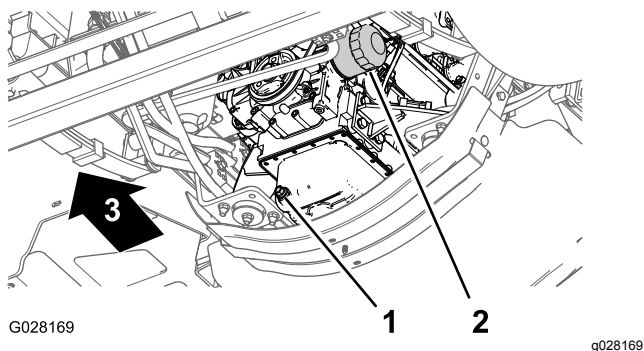

Figure 71
3. Align a drain pan under the engine oil filter (Figure 71).
4. Remove the old oil filter (Figure 71).
8. Install the oil filter to the filter adapter and turn the oil filter clockwise until the rubber gasket contacts the filter adapter, then tighten the filter an additional 1/2 turn (Figure 71).
1. Align a drain pan under the drain plug (Figure 71).
2. Remove the drain plug and allow the oil to drain completely (Figure 71).